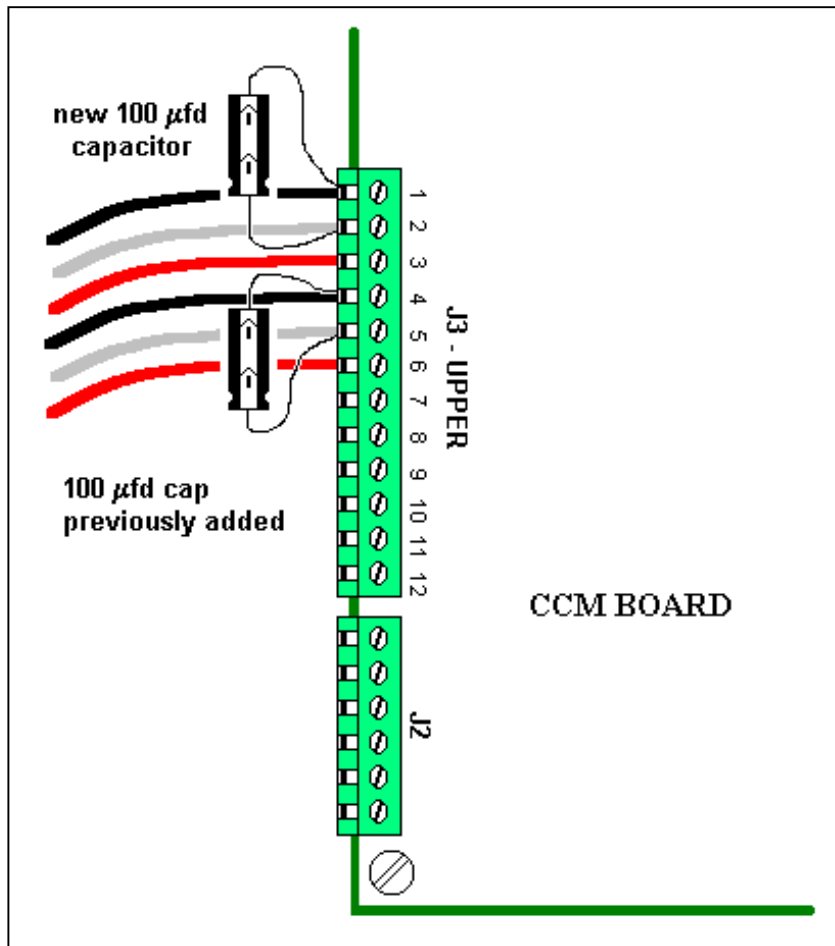

Figure 2. Wiring Diagram for Capacitor Placement
2. Install [another] 100 microfarad capacitor, rated for 16 volts or higher, between terminals 1 and 2 on the upper J3 plug as shown in Figure 2 below (which also shows the capacitor added for the low pressure oil fault described above). If the capacitor is of the electrolytic type, with a + or - polarity indicated, attach the "-" end to J3-1. This capacitor will filter out high frequency noise (which may not necessarily be detectable with a standard voltmeter) on the input or on the CCM ground. These capacitors were installed on production units starting on or about May 1, 2000.